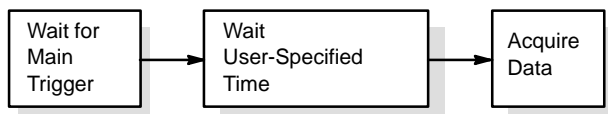

Figure 3-8: Delayed Runs After Main
*Delayed runs after main* looks for a main trigger, then waits a user-defined time, and then starts acquiring (see Figure 3-8).